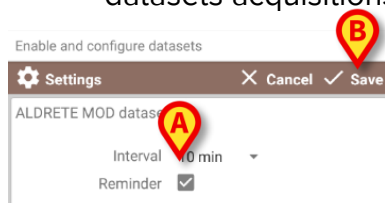

Fig 74
- Select the “Reminder” checkbox to get automatic reminders on when the datasets acquisitions are due (Fig 74 **A**).
- touch the **Save** option to save the changes made (Fig 74 **B**).